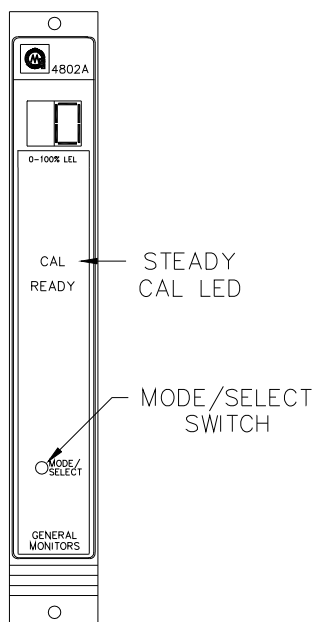

Figure 20: Entering CAL Mode
- Enter the Calibration Mode by following the procedure for entering the Calibration Check Mode, continuing to press and hold the Mode/Select switch until the **CAL LED** turns on steady, about fifteen seconds (Figure 20).